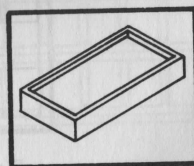

Fig. 24 - Tile Mold
75. Floor Tiles Tiles produced with the CINVA-Ram Block Press make inexpensive, attractive and durable flooring. The tile insert is a wooden block with a metal face (see Fig. 24). The wearing surface on the tile is made with a cement mixture.